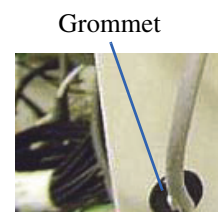

Figure 9.3. Placing the grommet in the chassis hole
8. Press the black grommet on the Foam Sensor cable into the chassis hole (see Figure 9.3).